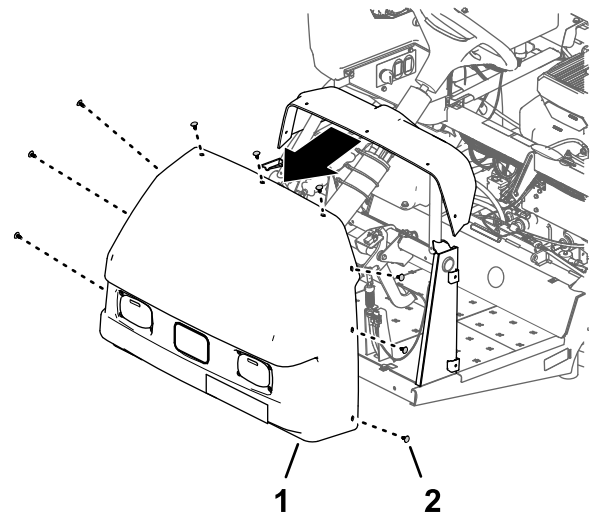

Figure 15
2. Remove the 9 push-in fasteners that secure the hood to the dash and frame of the machine (Figure 15).
3. Remove the hood from the machine (Figure 15).